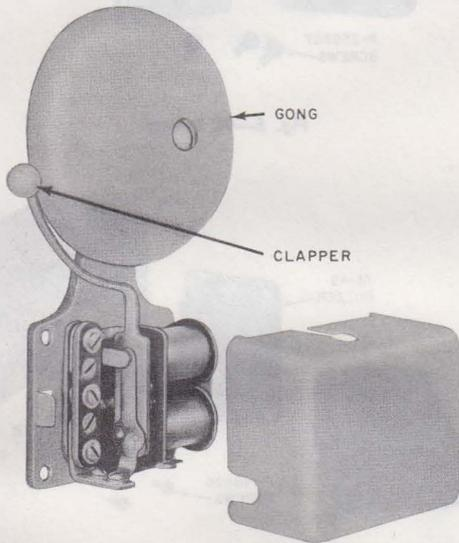

Fig. 8—7-Type Bell
2.06 The 7-type bell (Fig. 8) and 7-type buzzer (Fig. 7) have the same design features except the bell is equipped with a clapper and 3-inch gong.